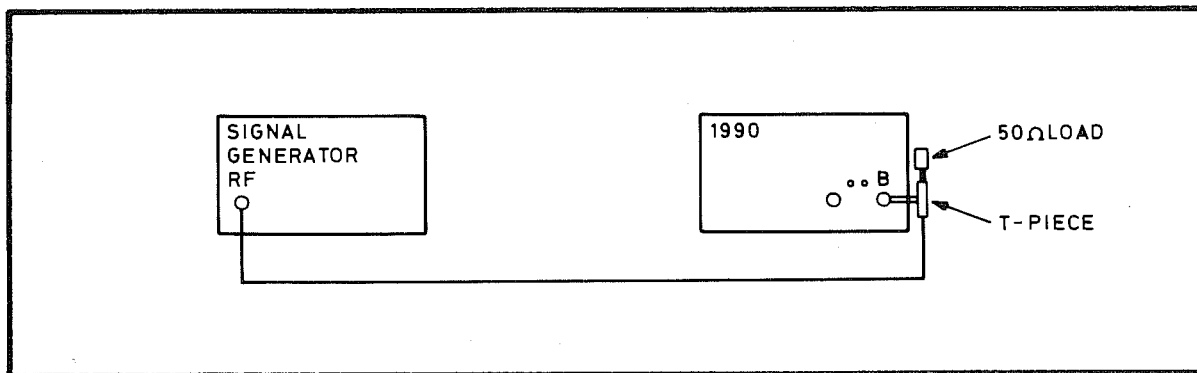

Fig 7.19 Connections for Channel B Sensitivity PVP
- (1) Ensure that the channel B trigger level control is set to 0 V.
- (2) Connect the test equipment as shown in Fig 7.19.
- (3) Press the DELAY key for 3s, until the DELAY LED comes on.
- (4) Set the signal generator output to the frequencies shown in Table 7.8 in turn. Set the 1990 resolution to the corresponding value.
- (5) At each frequency, determine the minimum input level to the 1990 that gives stable counting. Verify that this is not more than the level shown in the table.
- (6) Disconnect the test equipment.